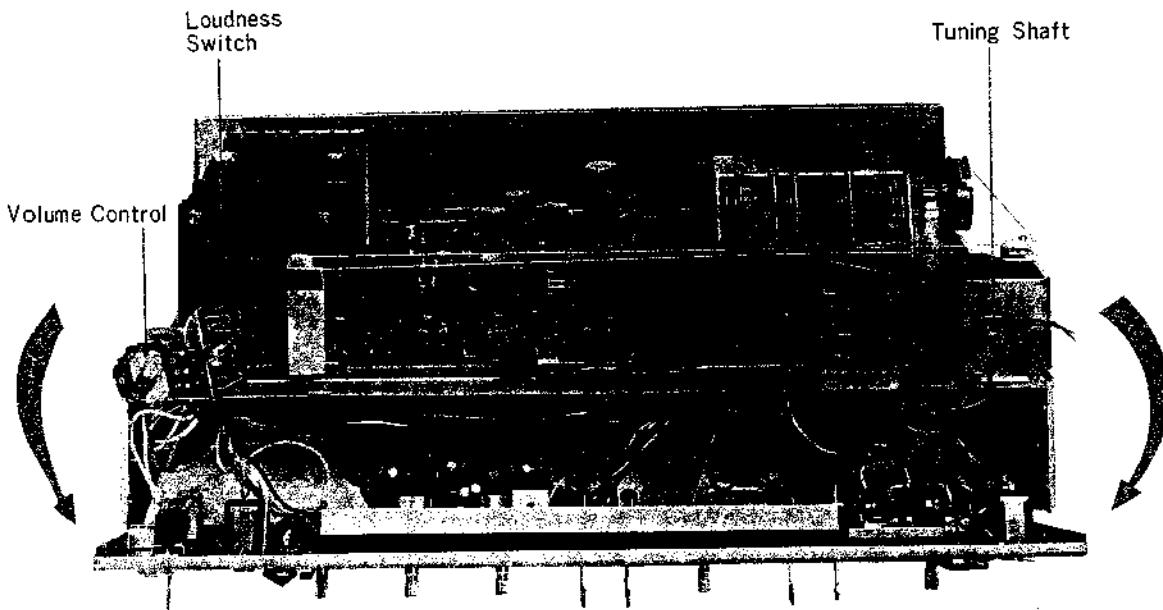

Fig. 2-4 Removal of Front Panel Ass'y (2)
- (e) Unsolder the lead wires from both dial lamp sockets. The front panel assembly is now free, and can be tilted forward and down as shown in Fig. 2-4.